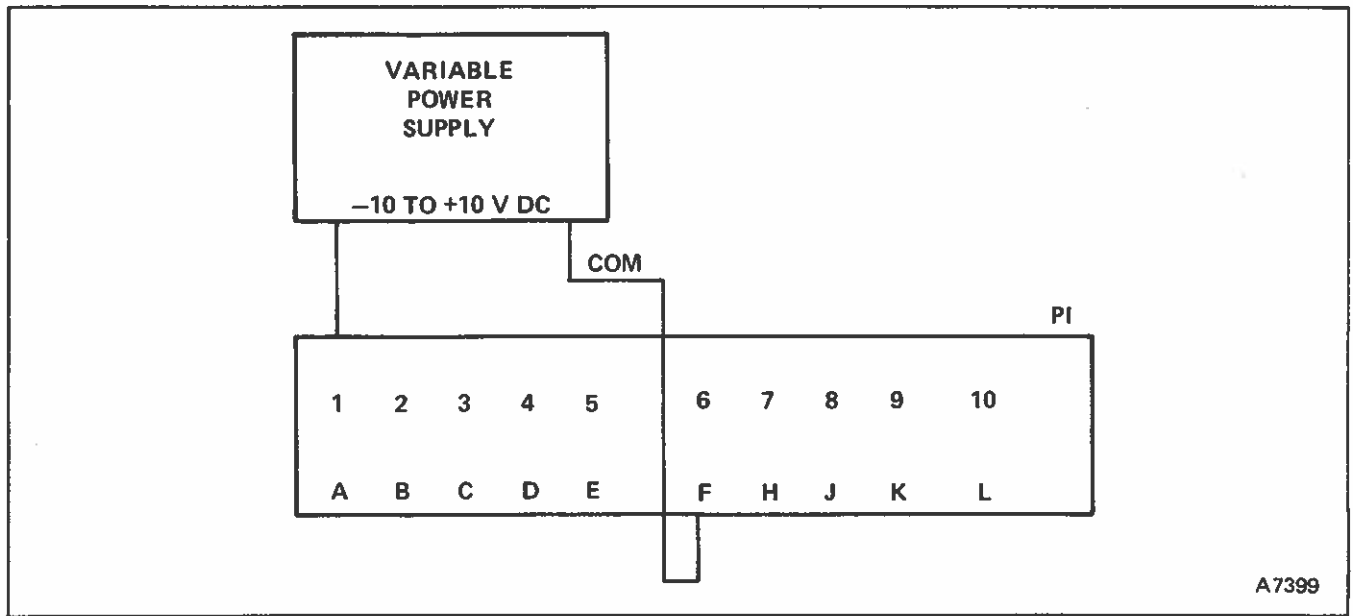

FIGURE 35 – Calibration Circuit for TY20 Station
1. Remove Measured Variable Station from Enclosure and connect to calibration circuit (Figure 35).